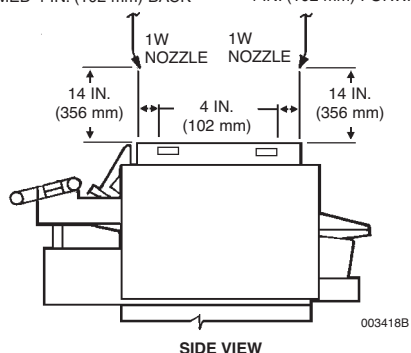

FIGURE 89
- **Nozzle Quantity/Type:** (2) Two 1W nozzles, Part No. 419347.
- The rear nozzle tip is a mirror image of the front. The rear nozzle is located 14 in. vertically above the appliance, aligned with the “rear” face and centerline of the catalytic converter. The aim point is 4 in. behind the “rear” edge of the converter on the centerline. See Figure 89.